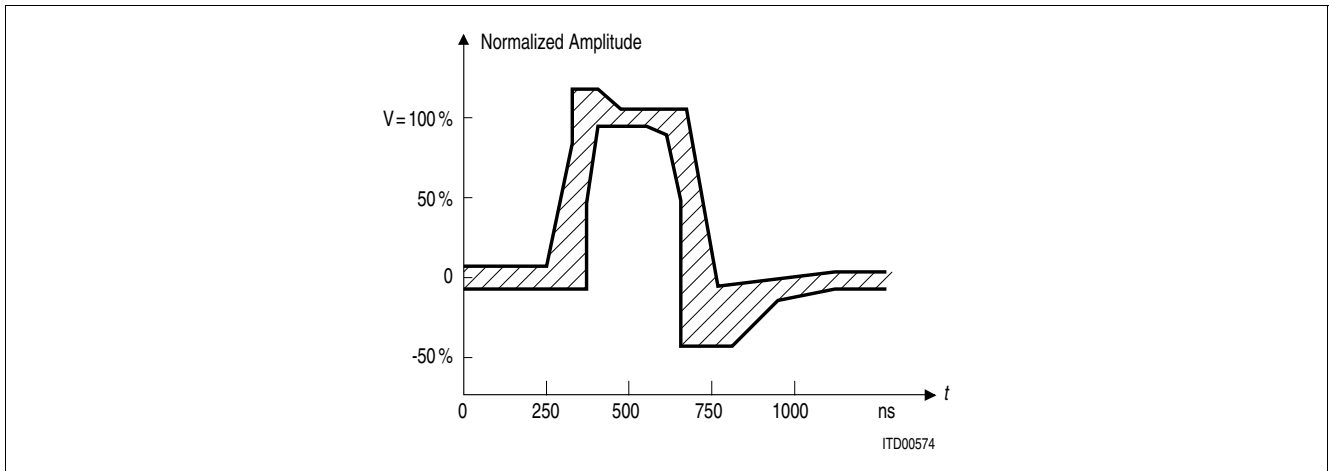

Figure 56 T1 Pulse Shape at the Cross Connect Point
- For T1: FCC68; ANSI T1. 403 1999, figure 4; ITU-T G703 11/2001, figure 10 (for different cable lengths), see Figure 56. For measurement configuration were  $R_{load} = 100 \Omega$  see Figure 33.
With the given values in Table 24 or Table 26, for transformer ratio: 1 : 2.4, cable type AWG24 and with  $R_{load} = 100 \Omega$  the pulse mask according to ITU-T G703 11/2001, figure 10, see Figure 56, is fulfilled.